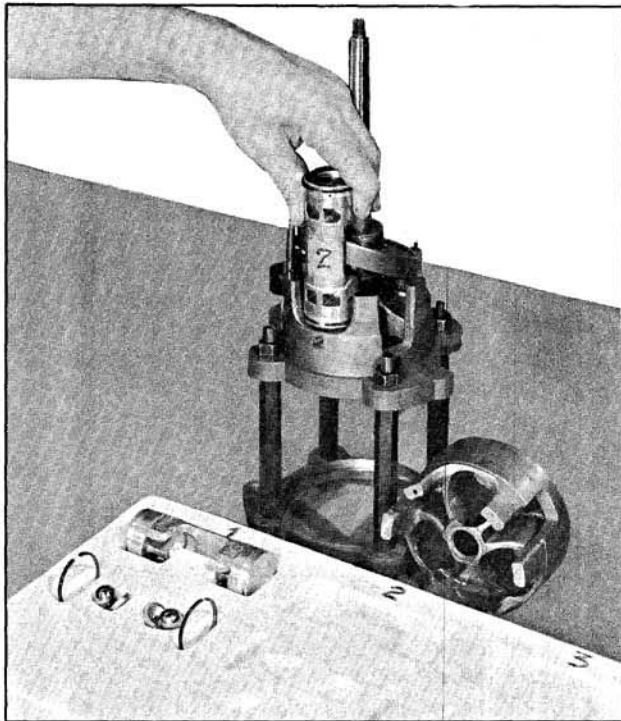

Fig. 14-127 Removing Piston
8. Repeat procedure until all pistons are removed. (Fig. 14-127)